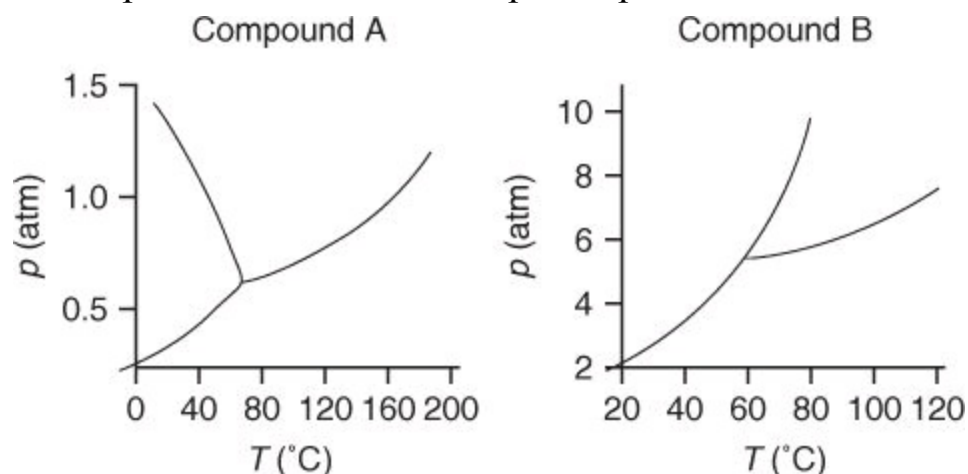

Figure P8.2.9
- **8.2.9.** Based on the phase diagrams in Figure P8.2.9, answer the questions and explain your answers.